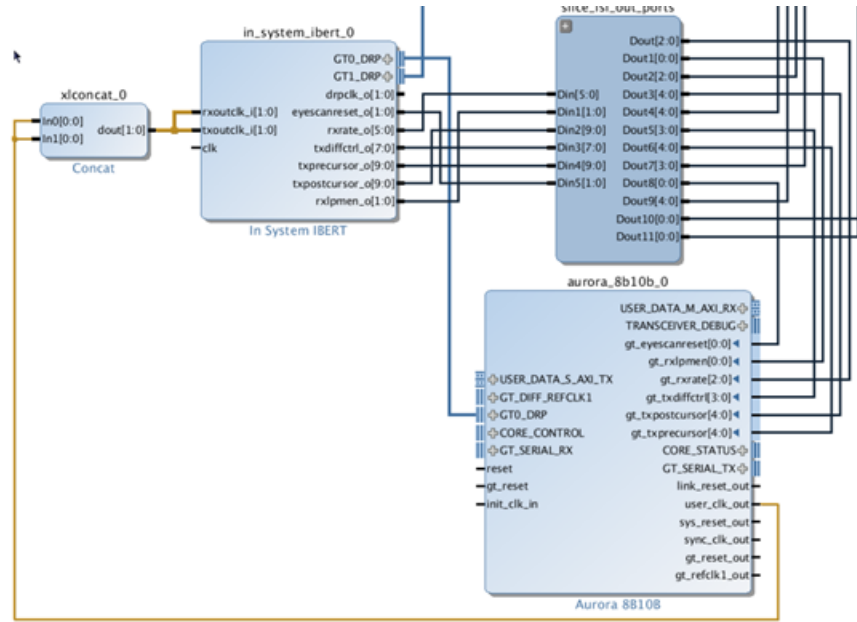

Figure 5-14: Concatenate usr_clk_out
- Concatenate `usr_clk_out` of `aurora_8b10b_0` and connect it to the `rxoutclk_i` input port of the ISI core as shown in Figure 5-14.